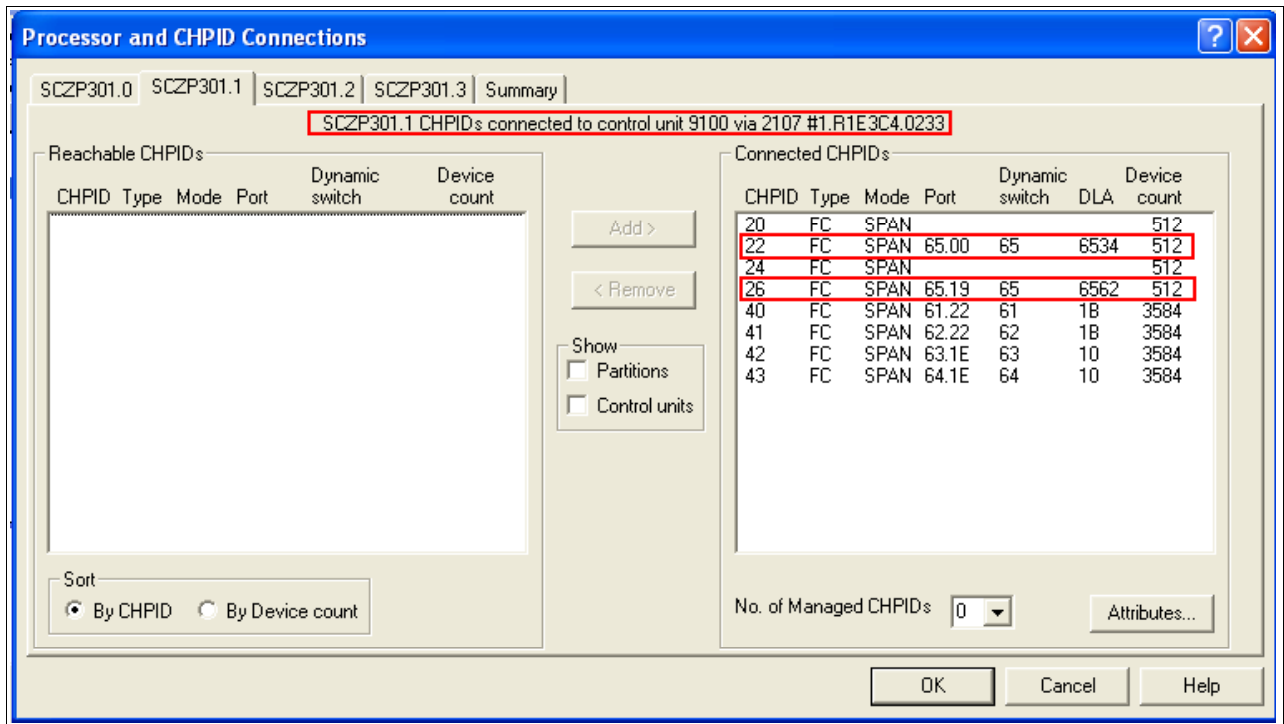

Figure 6-22 HCM Final step with adding CHPIDs to CU definitions
25. Click **Close** to add CHPID 26 to CU 9100 and CU9100 through interface 0233. The final step looks like Figure 6-22.
Observe the 2 byte Destination Link Addresses (DLA). Refer Figure 6-22.